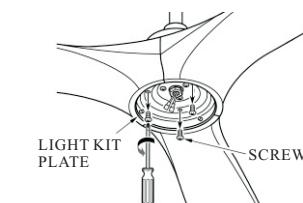

FIG.14
3. Remove the 3 screws from the light kit and keep it for future use.(See fig.14)